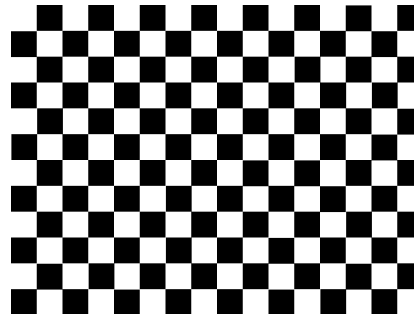

Figure 11. Example of Checkerboard Test Pattern
14. As noted in Table 4, the colors for the checkerboard pattern are specified using both the foreground and background colors. The foreground color is used for one of the checkers, and the background color is used for the alternating checker. As noted in Table 5, the user specifies the number of horizontal checkers and the number of vertical checkers. For this pattern, the system automatically determines the checker size in each direction based on the number of checkers and the size of the display (DMD). For example, if the number of horizontal checkers = 4, the number of vertical checkers = 4, and the DMD resolution is 1280x720, the size of the horizontal checkers is 320 pixels, and the size of the vertical checkers is 180 pixels (1280 pixels / 4 checkers = 320 pixels: 720 pixels / 4 checkers = 180 pixels). An example of a checkerboard pattern (16 checkers by 12 checkers) is shown in Figure 11.